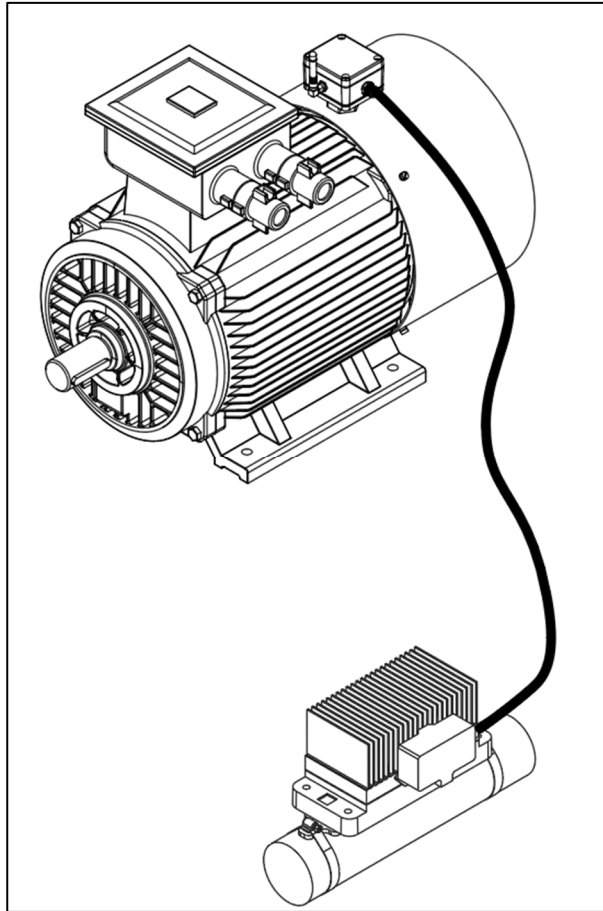

Figure 15.- Connection between the IIoT Wireless module and the Generator module (InduEye® TG Duo module)
- On the other side, from the power generation module, in this case InduEye® TG Duo, make sure the connection between modules is properly done (Figure 15).